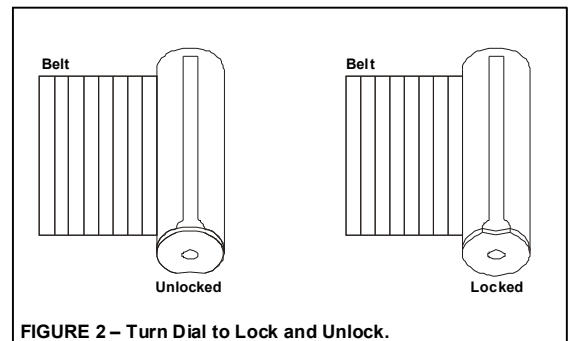

FIGURE 2 – Turn Dial to Lock and Unlock.
2. **Unlock & Retract:** To UNLOCK, turn the dial at the bottom of the belt end to the "Unlocked Position." To RETRACT, slide the belt end upwards and walk the belt end completely back to the Post. See Figure 2 for pictorial illustration of locked and unlocked position.